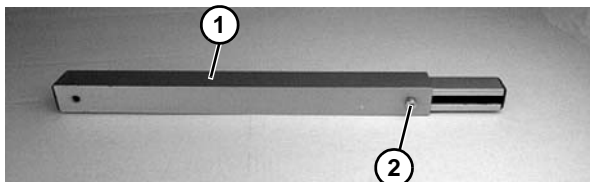

Figure 12
1. Loosen screw (Figure 12, item 1) of adjustable bar (Figure 12, item 2).